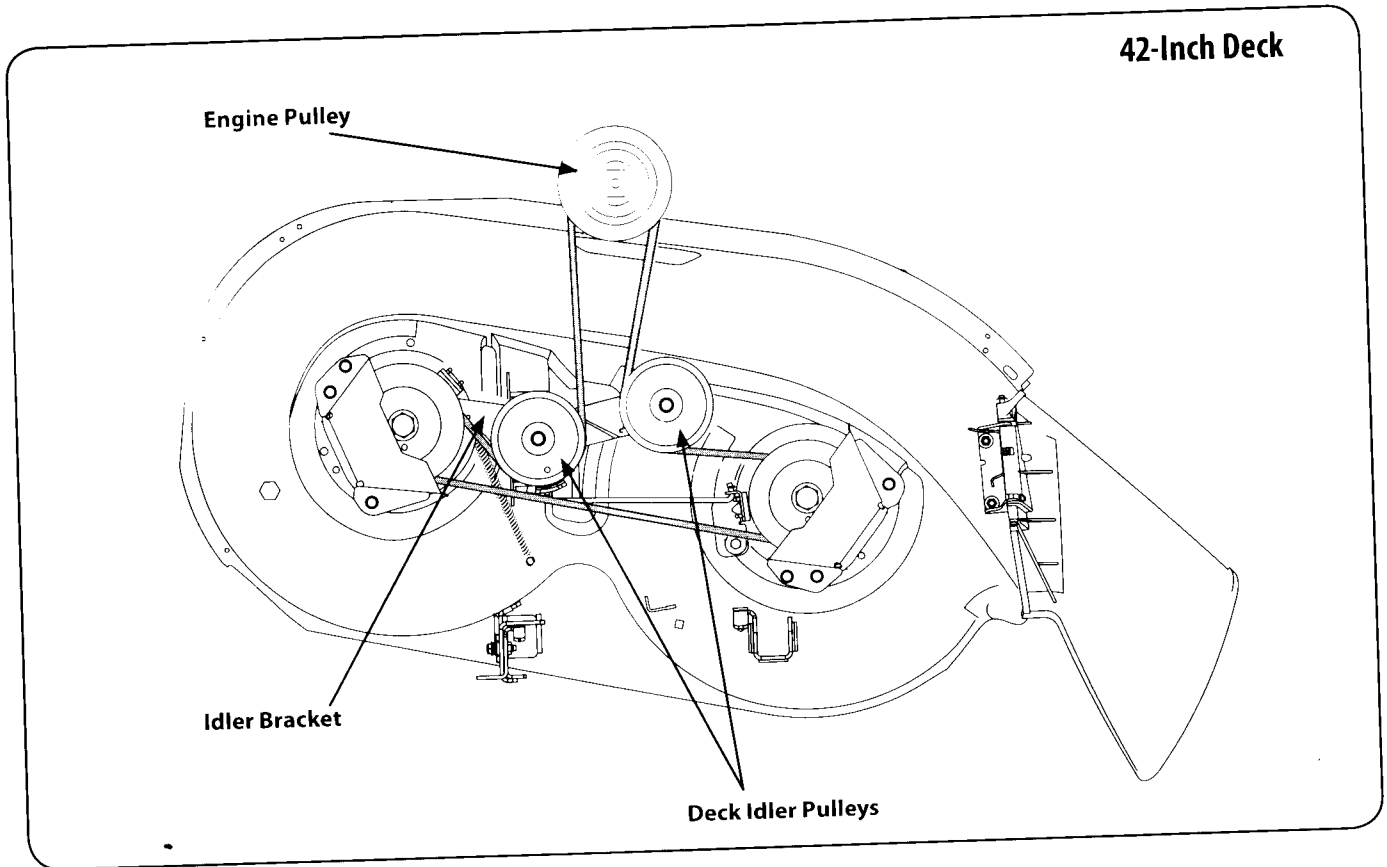

Figure 7-8
6. Route the new belt as shown in Fig. 7-8.